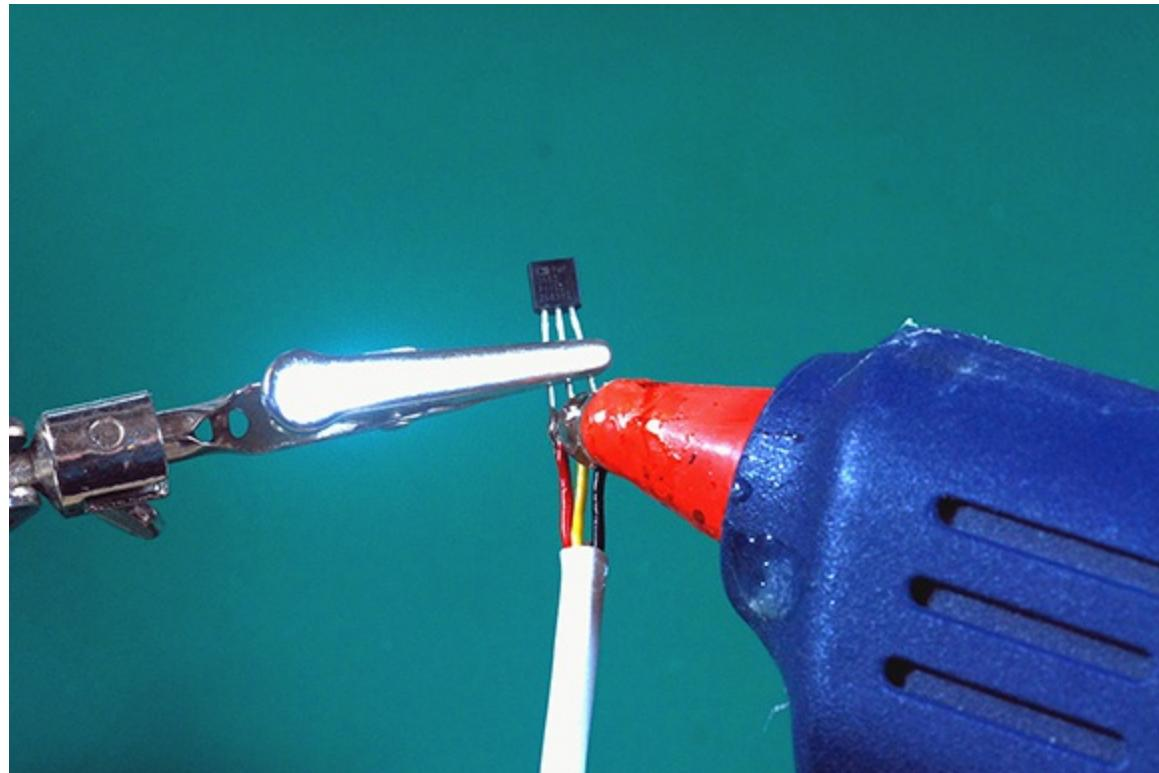

Figure 12-7: Keeping the legs in position with hot glue.
8. For each sensor, use a dab of hot glue to keep the legs from touching, as shown in Figure 12-7.